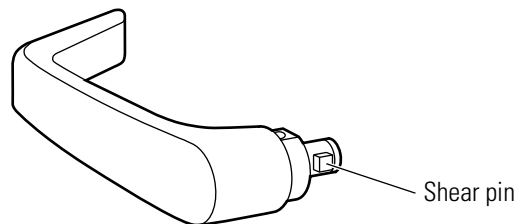

Figure 10.16 Removing and reinstalling the shear pin
1. Make sure that the shear pin is positioned on the lever so that the head faces the opposite direction of the lever handle. See Figure 10.16.
1. Insert the shear pin into the lever, making sure that the shear pin is positioned in the lever so that the head faces the opposite direction of the lever handle. See Figure 10.16.